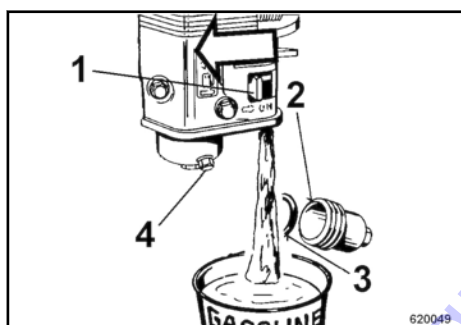

Fig. 71
Open the fuel tap (1) ↷ Fig. 71 in direction of arrow.